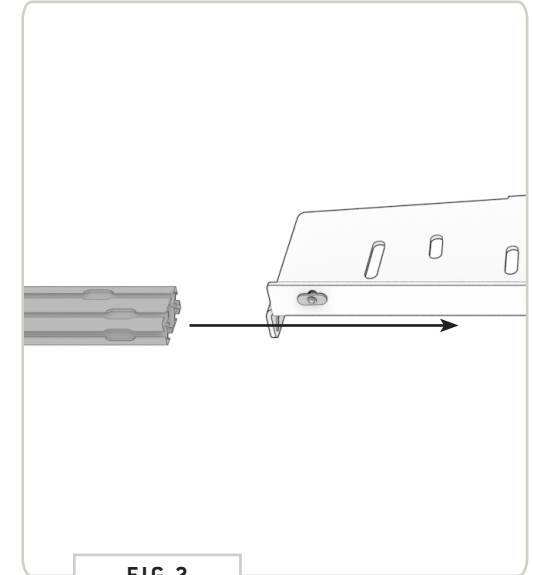

FIG 2
**1.2 Crossbar Install:** Now, slide a Crossbar onto the Crossbar Fairing Bracket. You'll have to straighten each T-Nut as you go to get it to feed into the crossbar correctly (FIG 2 + 3).